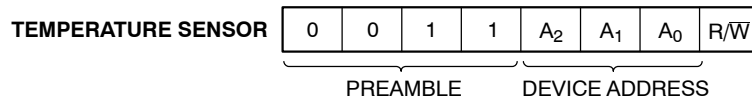

Figure 9. Slave Address Bits
The Master initiates data transfer by creating a START condition on the bus. The Master then broadcasts an 8-bit serial Slave address. The first 4 bits of the Slave address (the preamble) select the Temperature Sensor (TS preamble = 0011) as shown in Figure 9. The next 3 bits, A2, A1 and A0, select one of 8 possible TS Slave devices. The last bit, R/\overline{W} , specifies whether a Read (1) or Write (0) operation is being performed.